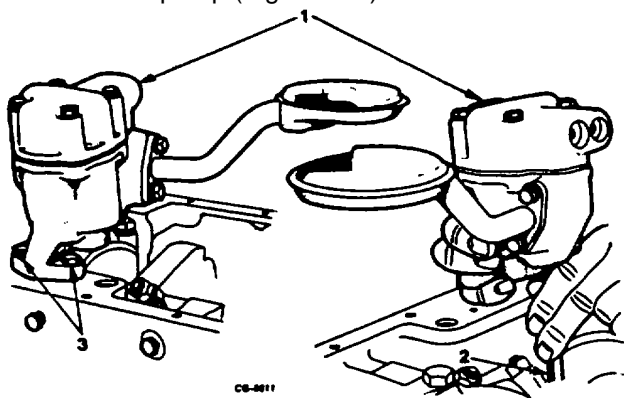

Figure 104. Installing Oil Pump
- 14. Remove two oil pump mounting bolts and remove pump (Figure 104).